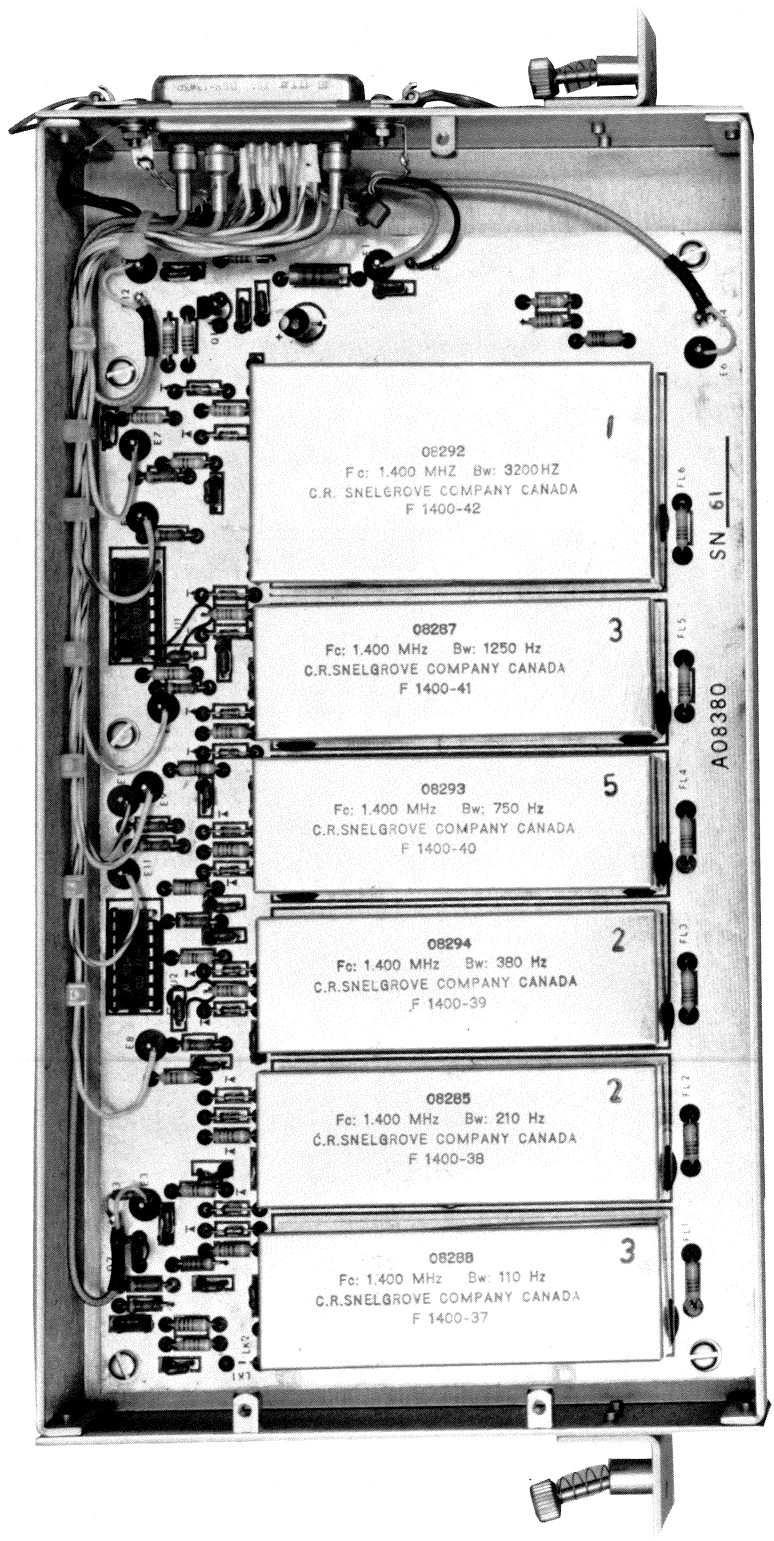
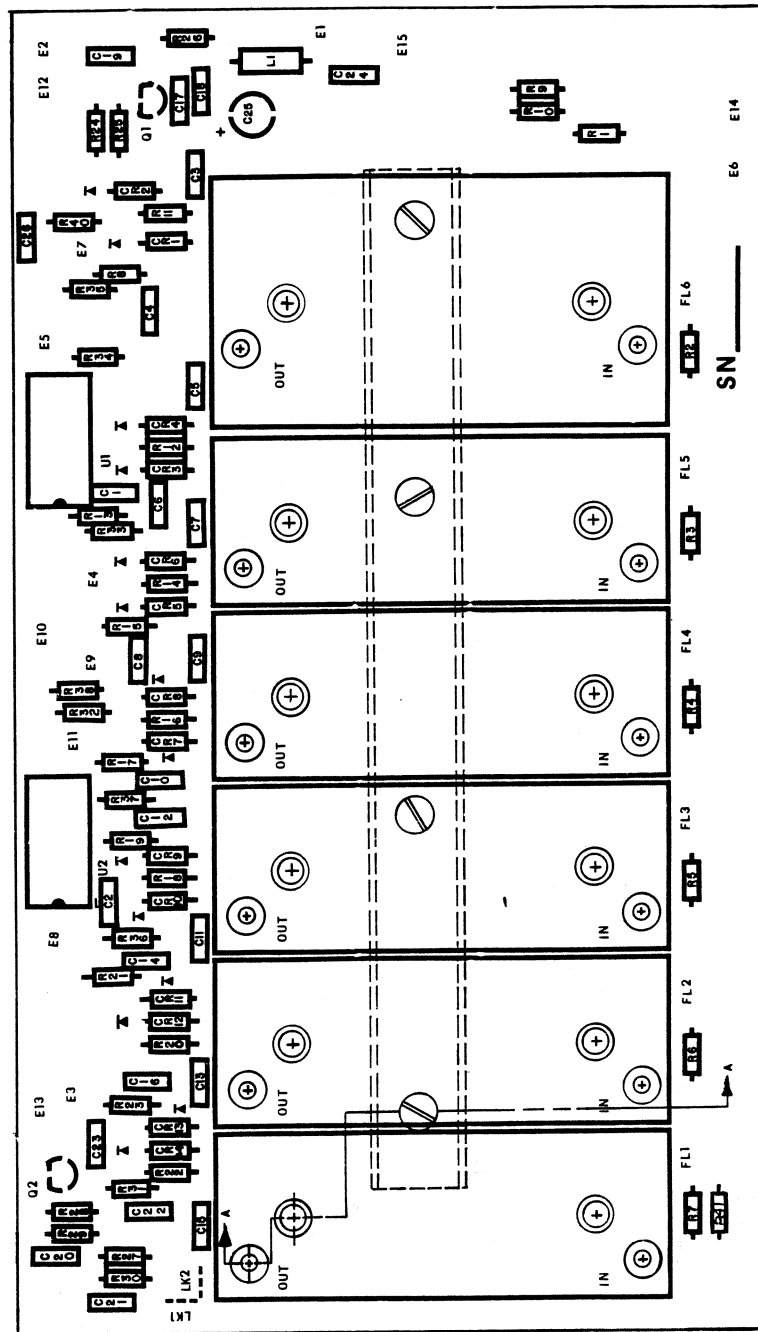

Figure 5-3A. IF Filter A4, Overall Assembly
Figure 5-3B. IF Filter A4, Circuit Card Assembly
Figure 5-2 shows the RACAL IF Filter (A4) Test Fixture. Figure 5-3A shows the IF Filter module, A4, overall assembly while Figure 5-3B shows the module circuit card assembly.
If the above procedures have failed to produce predicted or desired results, a fault may be suspected. If faulty operation occurs only when one filter is switched in, then this filter is probably at fault and should be replaced. Otherwise trace signals to the fault. As indicated by the fault symptoms, trace through the filter selection circuitry and the output circuitry. Refer to the module schematic diagram, Figure 5-1, and Figures 5-3A and 5-3B for location of circuitry and components. Use the oscilloscope (item 4 of Table 5-1) as required, to trace signals.